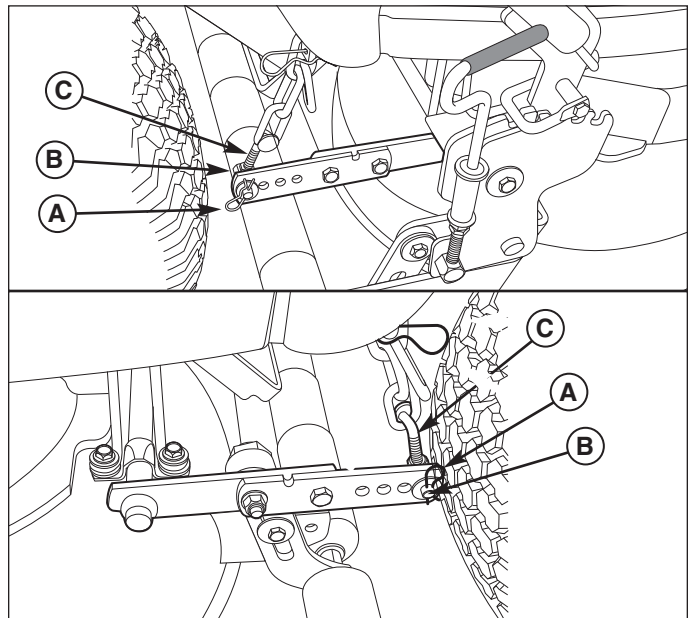

Figure 36. Leveling The Mower Side-to-Side
5. See Figure 36. Support the mower deck, remove the hair pin clip (A), and thread the trunnion (B) up or down the J-hook (C) to raise or lower the left or right side of the mower deck. Reinstall the trunnion in the mower lift bar and secure using the hair pin clip (A).